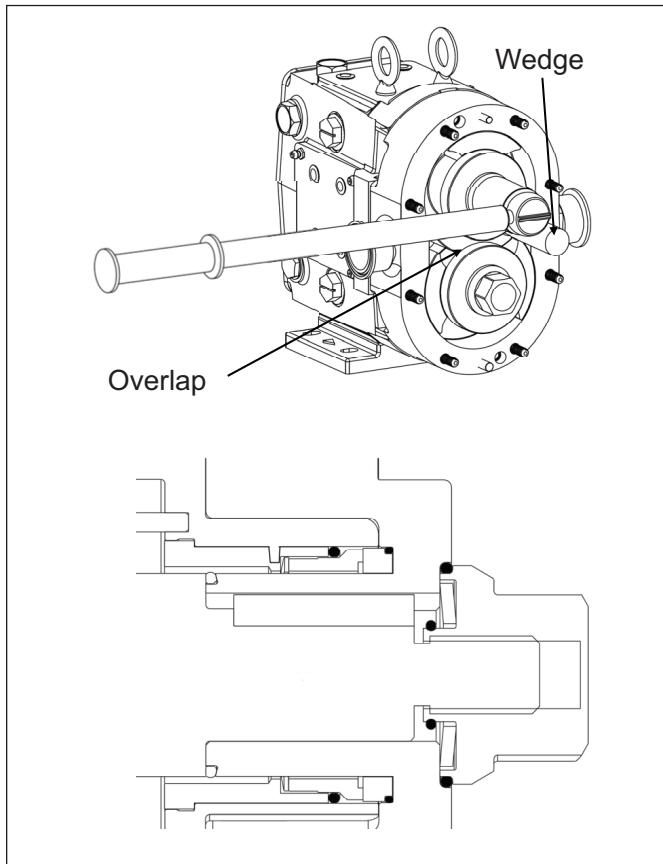

Figure 33. Rotor Assembly
7. Thread the nut onto the shaft and tighten it down using the appropriate wrench and a non-metallic wedge to hold the rotor in place (*Figure 33*). Reference page 37 for rotor nut torque values. Orientate the rotors as seen in *Figure 33* and Always tighten the first rotor positioned under the overlap of the opposing rotor. Repeat with the second rotor in the same orientation.